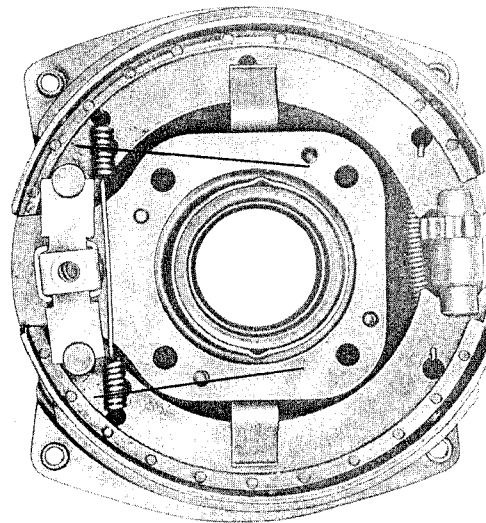

Fig. 36
9. The rear return spring should be so mounted that the spring windings point towards the center of the axle (Fig. 36). Ensure proper seating of spring.
10. Attach forward return spring from the back and install adjusting assembly (Fig. 36).